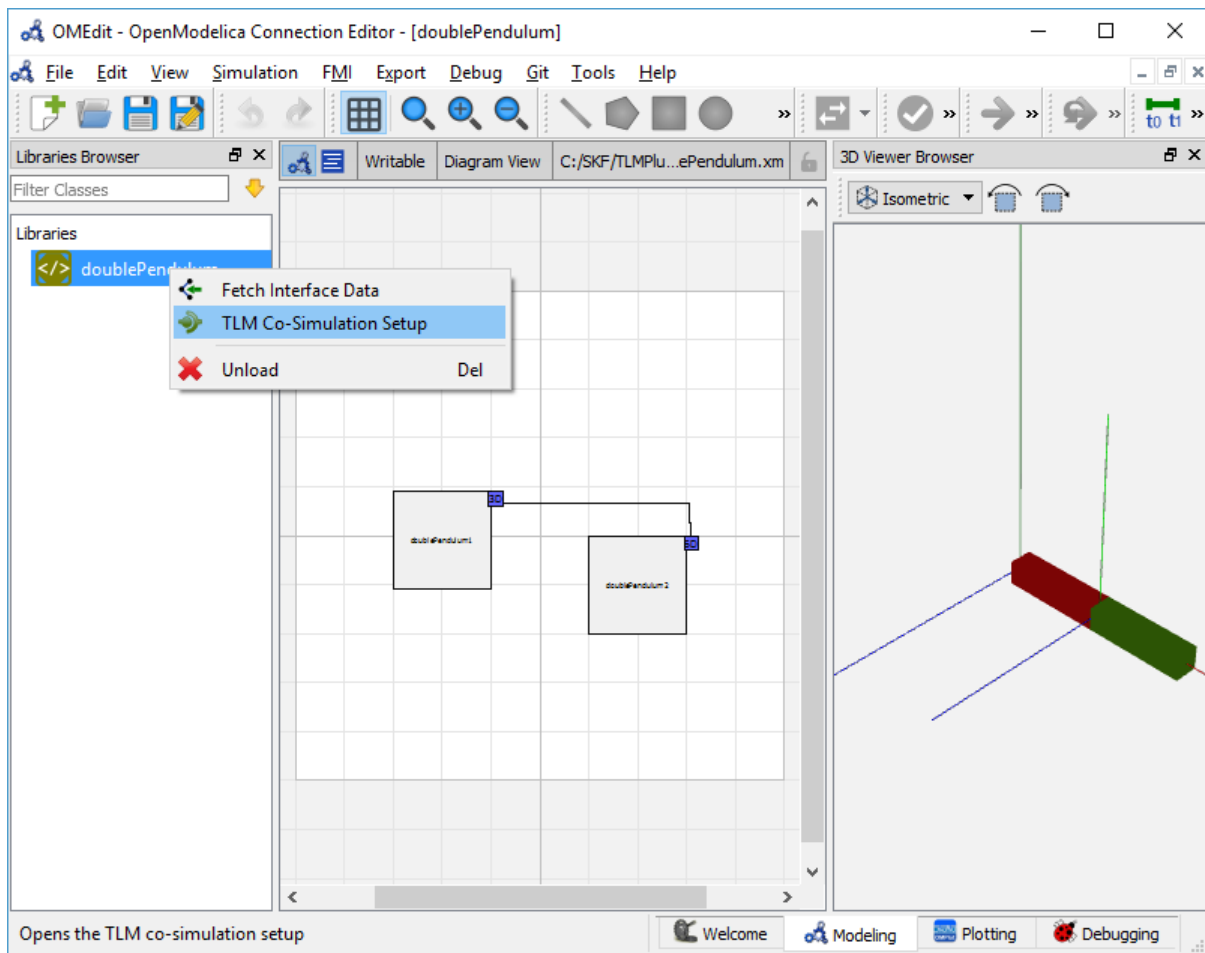

Figure 7.2: Co-simulating and Fetching Interface Data of a composite model from the Pop-up Menu .
- Right click the composite model in the **Libraries Browser** and choose **TLM Co-Simulation setup** from the popup menu (see Figure 7.2)
- Right click the composite model in the **Library Browser** and choose **Fetch Interface Data** from the popup menu (see Figure 7.2).